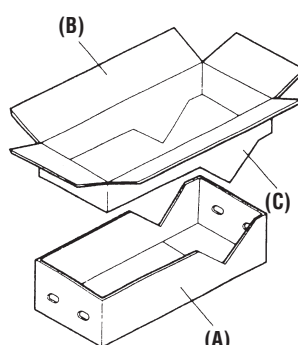

Figure 6-2
4. Using cutting line around the carton, cut into two pieces (A) and (BC). See Figure 6-2.